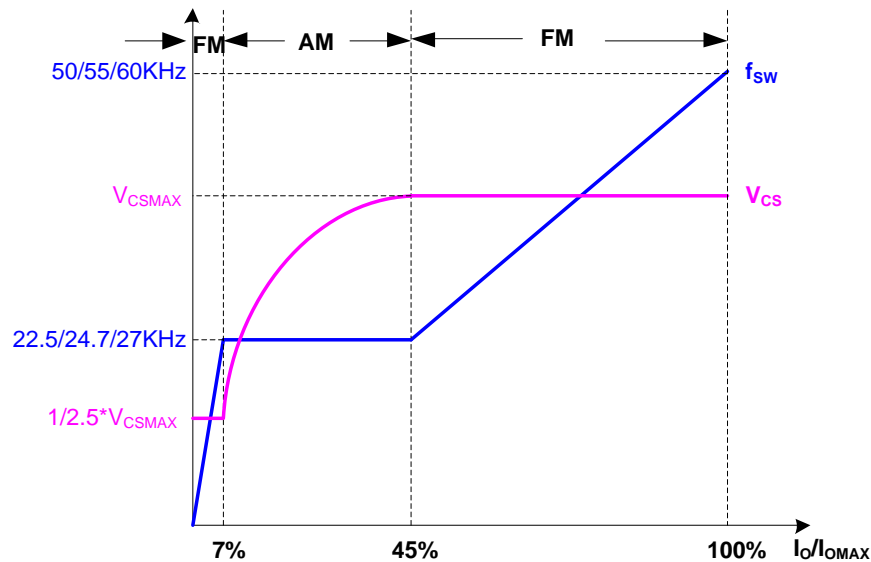

Figure 5. Segment Peak Current and Operating Frequency at CV Mode
In order to avoid audible noise issue, AP3984 uses 3-segment primary peak current control method at constant voltage (CV) mode, the current sense threshold voltage is multiple segments with different loading, as shown in Figure 5, which are V_{CS_H} for high load, varied V_{CS_M} for medium load and V_{CS_L} for light load. In no load and ultra light load condition (NL mode), the current reference is also V_{CS_L} . But the operation in NL mode is different, which will be described in next section.